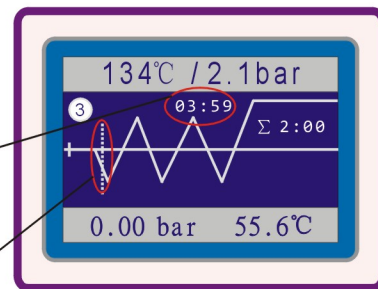

Fig.6.4-2
(2) **First times Pre-vacuum stage:** when the temperature over than 40℃, the sterilizer will start to do vacuum and the control system will open the vacuum pump solenoid valve (Ev4). LCD shows 03:59 countdown. if within 4 minutes, the vacuum value of less than Pv (factory default setting 23L: Pv=-0.75bar; 18L: Pv=-0.80bar) value, there will be alarm E12 or the vacuum value reaches Pv value in advance, sterilization program into heating stage in advance. (Fig. 6.4-2)